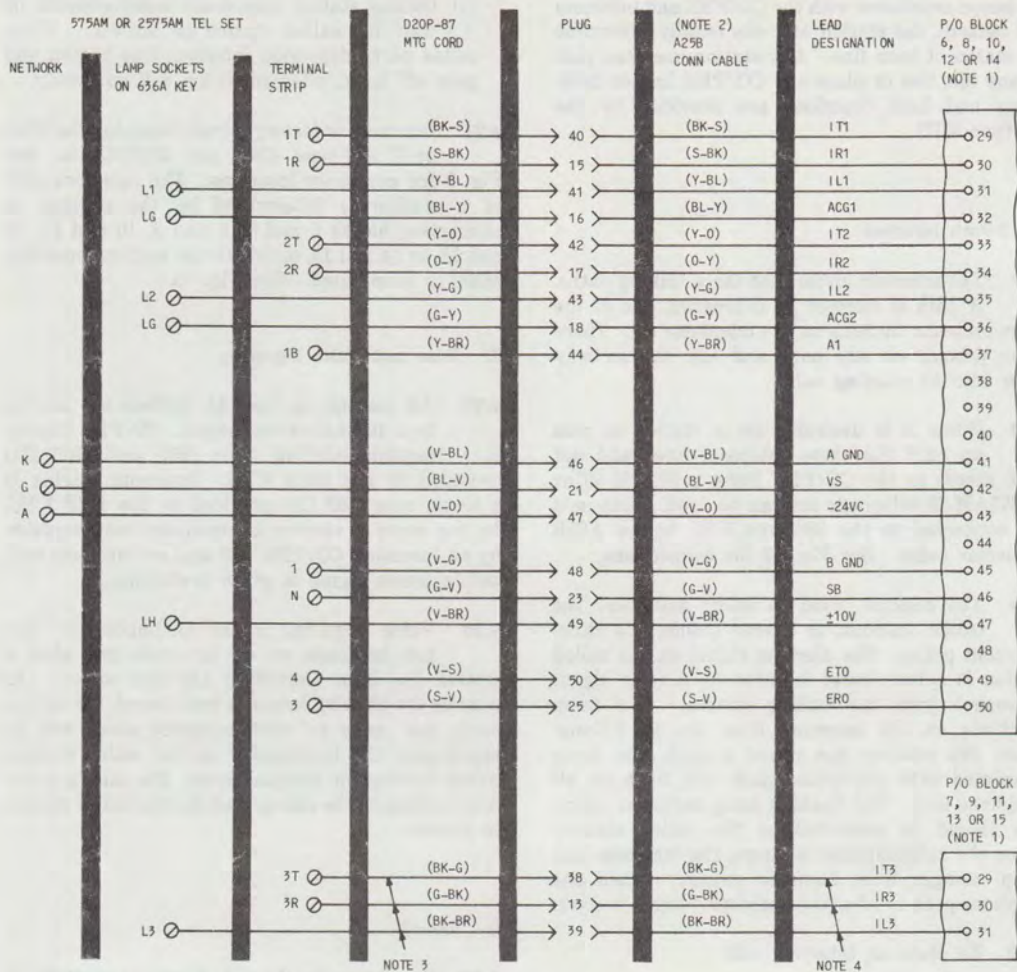

Fig. 22—Connections for Intercom-Only Telephone Sets
4.18 When it is desirable for a station to pick up only the three intercom lines and not have access to the CO/PBX lines, a 575AM-50 or a 2575AM-50 telephone set can be used. Both sets are connected to the 580-type KSU by an A25B connector cable. See Fig. 22 for connections.